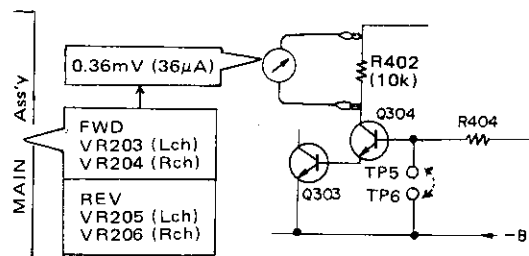

Fig. 9-11 Recording current rough adjustment 2
2. Connect the AC mV meter to both end of R402 (10kΩ) resistor of the main assembly as shown in Fig. 9-11.